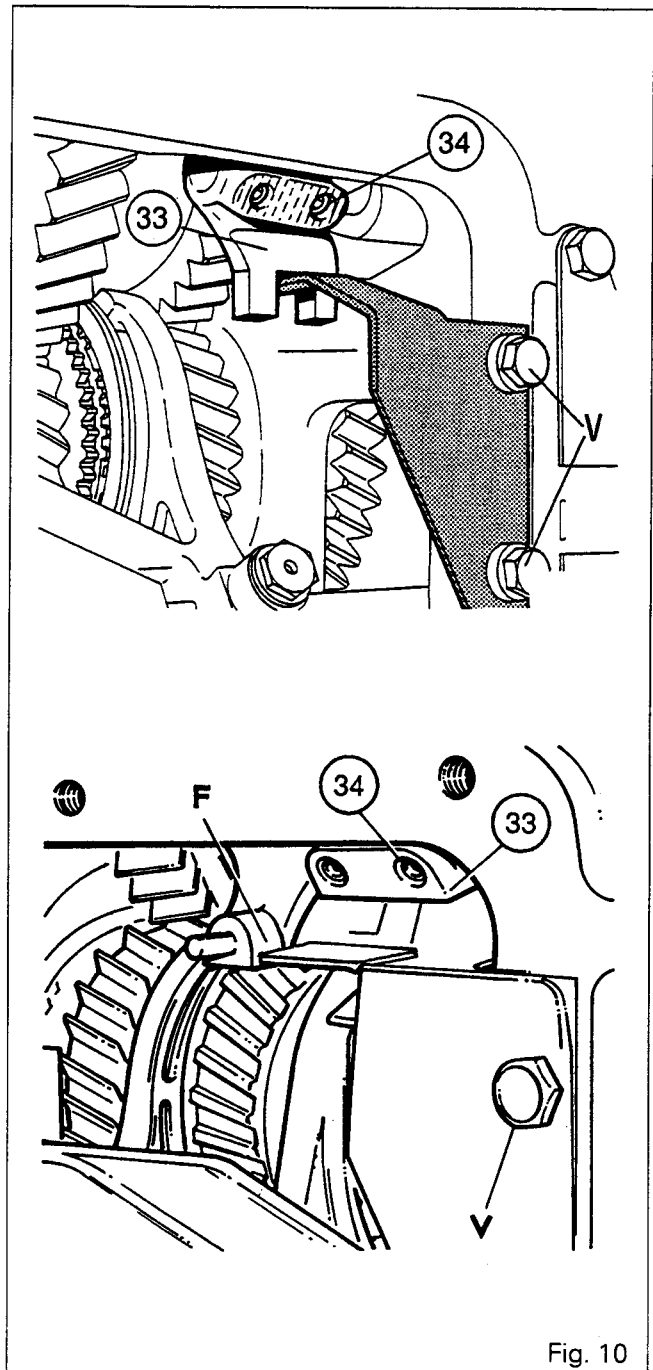

Fig. 10
51. Fit the fork (30), the locking pin (27), the spring (28) and the plug (29). Tighten the plug to a torque of 50 to 70 Nm. Fit the screws (32) coated with Loctite 221.
58. Adjust the reverse selector (Fig. 10). Position the selector (33) at the neutral point. Fit and tighten tool 3778054M1 with bolts «V». Coat the screws (34) with Loctite 221. Bring face «F» of the selector into contact with the tool by means of screws (34).